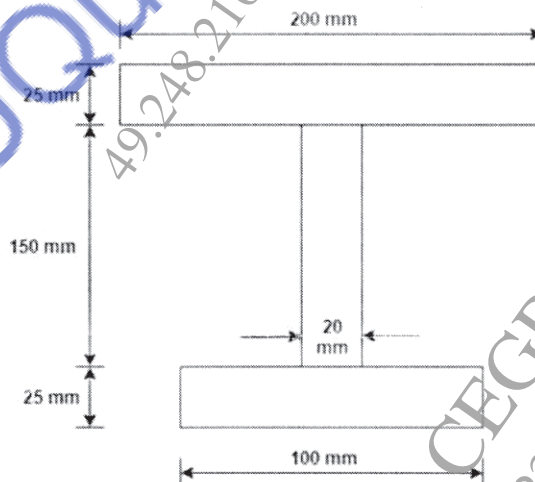

Figure 1
b) A simply supported beam of span 4 m carries a central point load 100 kN. The beam is I-section of unequal flange as shown in Figure 1. Calculate shear stress at neutral axis and also draw shear stress distribution over the depth of the section. **[9]**